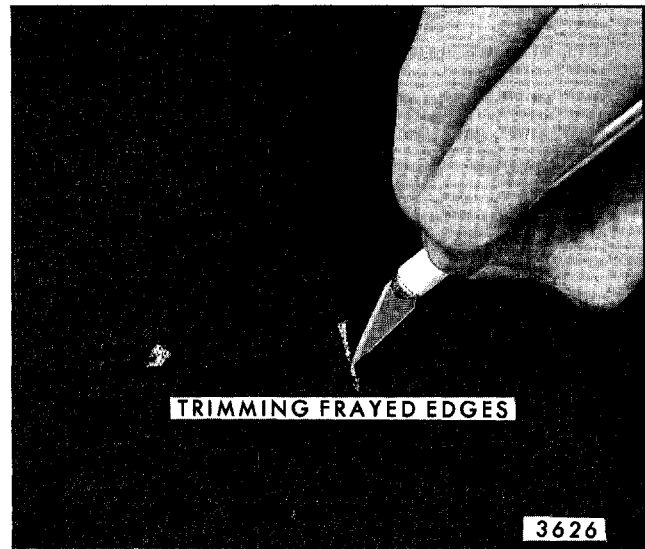

Fig. 8-53-Fabric Roof Cover Repair Trimming
- c. Using a razor knife, trim the damaged area to remove all frayed or damaged edges (Fig. 8-53).